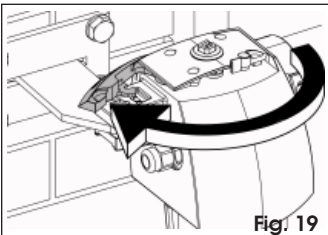

Fig. 19
4. Rotate the release lever until it stops, (Fig.19).